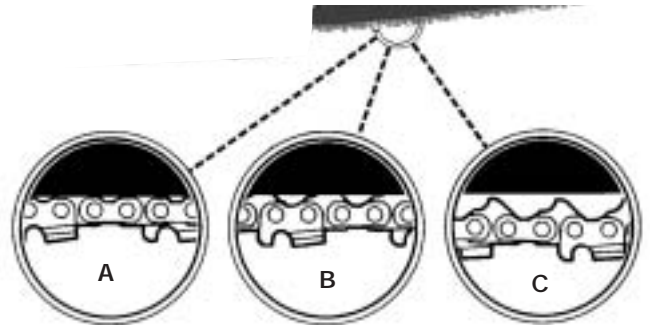

Fig. 11
NOTE: A new chain and bar will need readjustment after as few as 5 cuts. This is normal during the break-in period, and the interval between future adjustments will lengthen quickly (Fig. 11).
CAUTION: If a chain is too loose or too tight, the bar chain and saw bearings will wear more rapidly. Refer to Figure 11 for information concerning correct cold tension (A), correct warm tension (B), and a chain in need of adjustment (C).